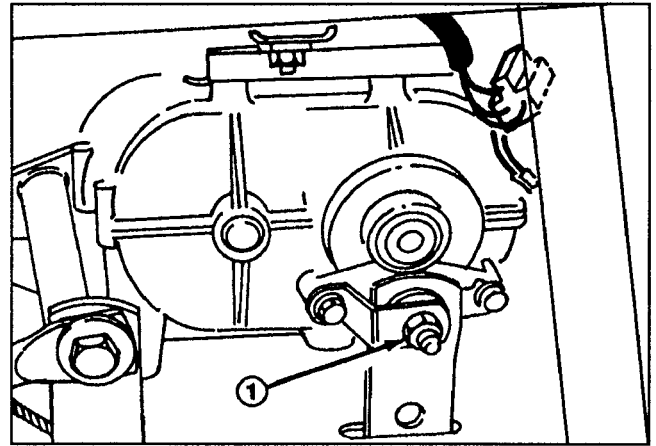

Figure 35
3. Tighten locknut approximately 1/4 turn clockwise (Fig. 35).